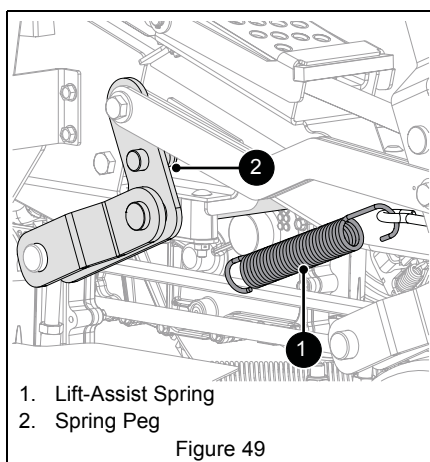

Figure 49
5. Slowly disconnect lift-assist springs from spring peg on each side of deck. See Figure 49.